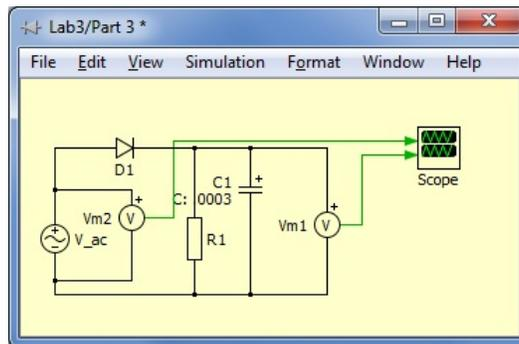

Figure 9: PLECS Circuit 3
10. Create the circuit shown in figure 9 in a new PLECS block. The circuit involves one Resistor and Capacitor in parallel. Set the resistor to $1.0\text{k}\Omega$ and the capacitor to 3 mF (milli-Farad). Inside the PLECS block, place a voltage probe across the capacitor. Set the initial value of the on the capacitor to 0V . Simulate the model and record the simulated waveform.